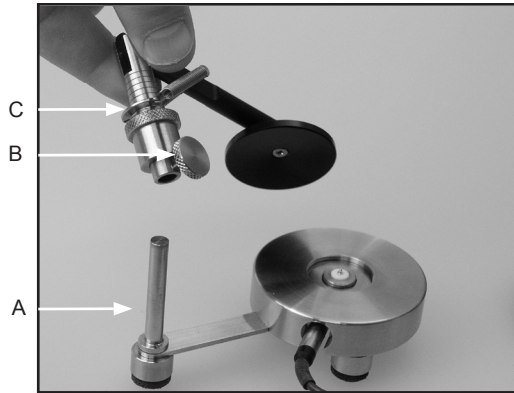

Fig. 3.1
1. Fig. 3.1: On the Test Jig, A: Slacken the knurled screw, B.